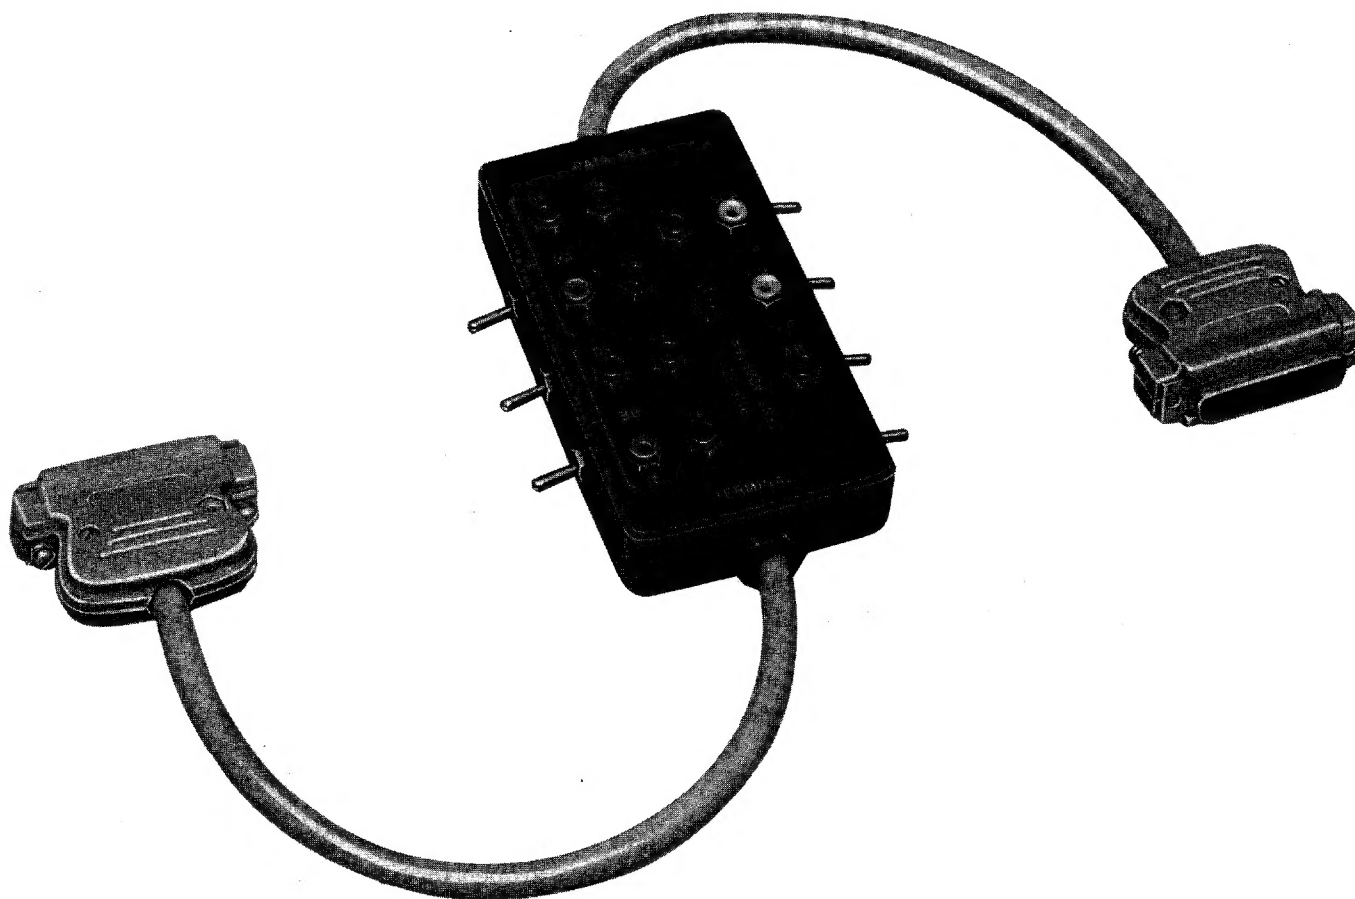

Fig. 1—911P EIA Test Adapter—Connector Side
1.03 The 911P EIA test adapter (Fig. 1) is a portable unit which provides access to Electronic Industries Association (EIA) interfaces. It is terminated at either end with an EIA interface connector, thereby allowing it to be connected in series with a data set and terminal equipment. It is intended for use primarily with 911-type data test sets (DTSs); however, it may also be used with a voltmeter, oscilloscope, or any test equipment that could be used with the 901B DTS cover. It may be used on an in-service or out-of-service basis.
2.01 The 911P EIA test adapter shown in Fig. 1 and 2 is an integrated unit incorporating all the wiring necessary to serially connect a test set between the terminal equipment and the data set. It measures approximately 4-3/4 inches high, 2-1/2 inches wide, 1-inch deep, and weighs approximately 1 pound.